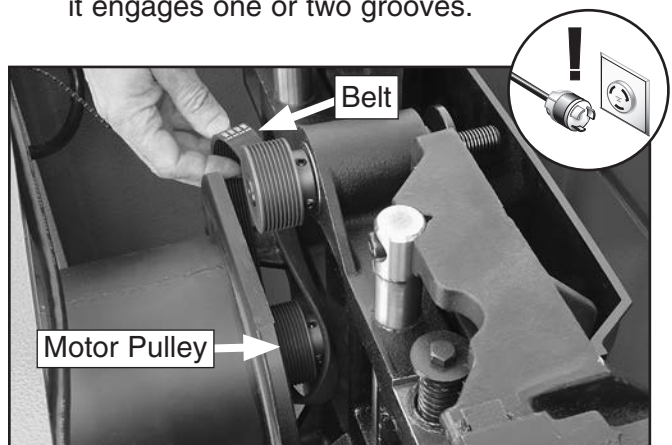

Figure 152. Installing belt.
8. Turn the new belt sideways and slip it over the motor pulley, as shown in **Figure 152**, so it engages one or two grooves.